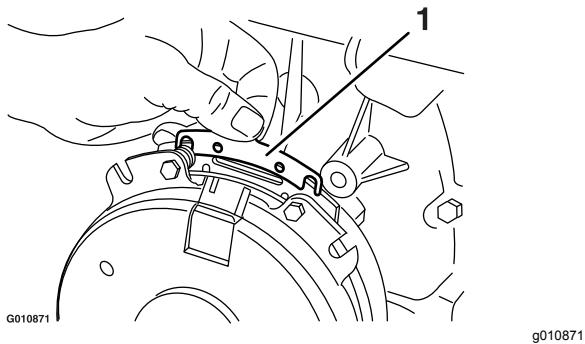

**Figure 58**
A. Loosen both brake mounting bolts 1/2 to 1 full turn as shown in Figure 58.